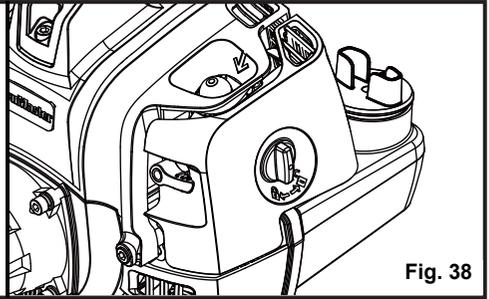

Fig. 38
- Replace the air filter cover ensuring the air filter is completely covered (Fig. 38).